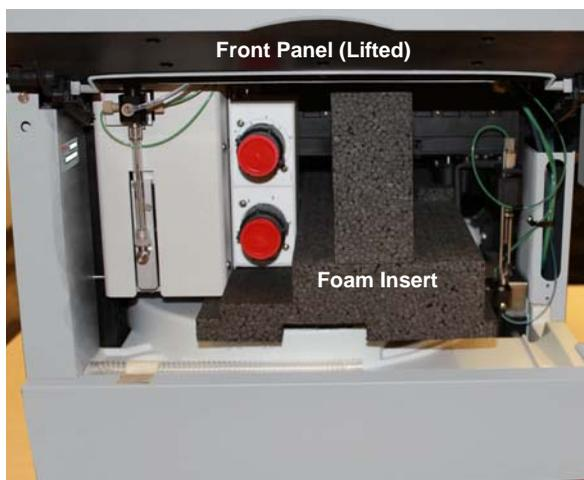
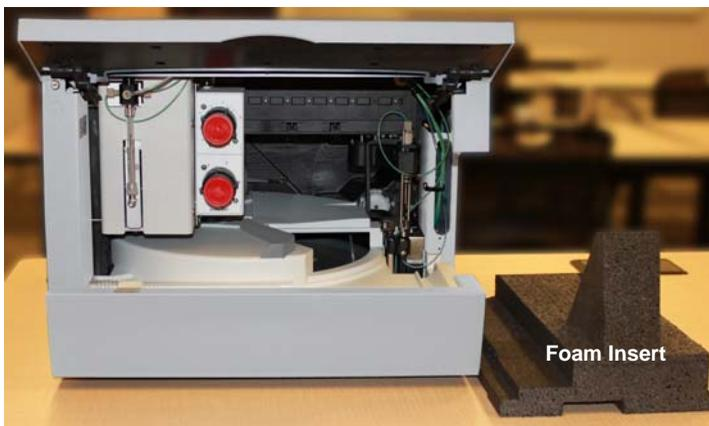

Figure B-5. *Dionex AS-AP with Foam Insert for Protecting the Needle Arm and Carousel (Dionex AS-AP with Optional Valves Shown)*
Figure B-6. *Dionex AS-AP with Foam Insert Removed*
8. Lift up the Dionex AS-AP front panel (see Figure B-5) and pull out the foam insert that secures the needle arm and carousel cover during shipment (see Figure B-6).